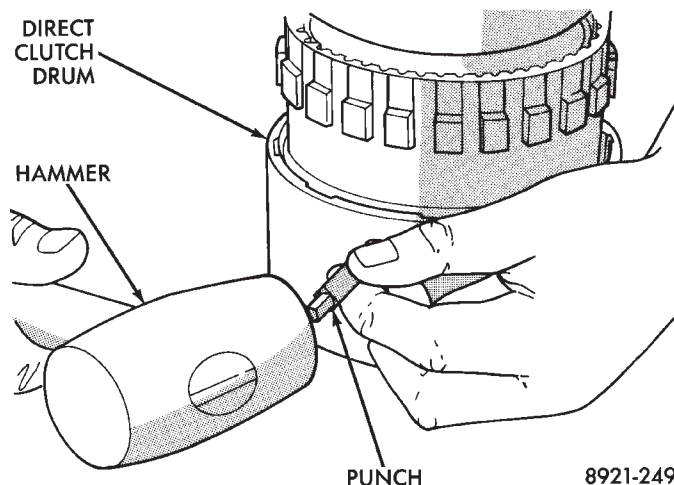

Fig. 270 Marking Direct Clutch Drum And Annulus Gear For Assembly Alignment
(6) Mark position of annulus gear and direct clutch drum for assembly alignment reference (Fig. 270). Use small center punch or scribe to make alignment marks.